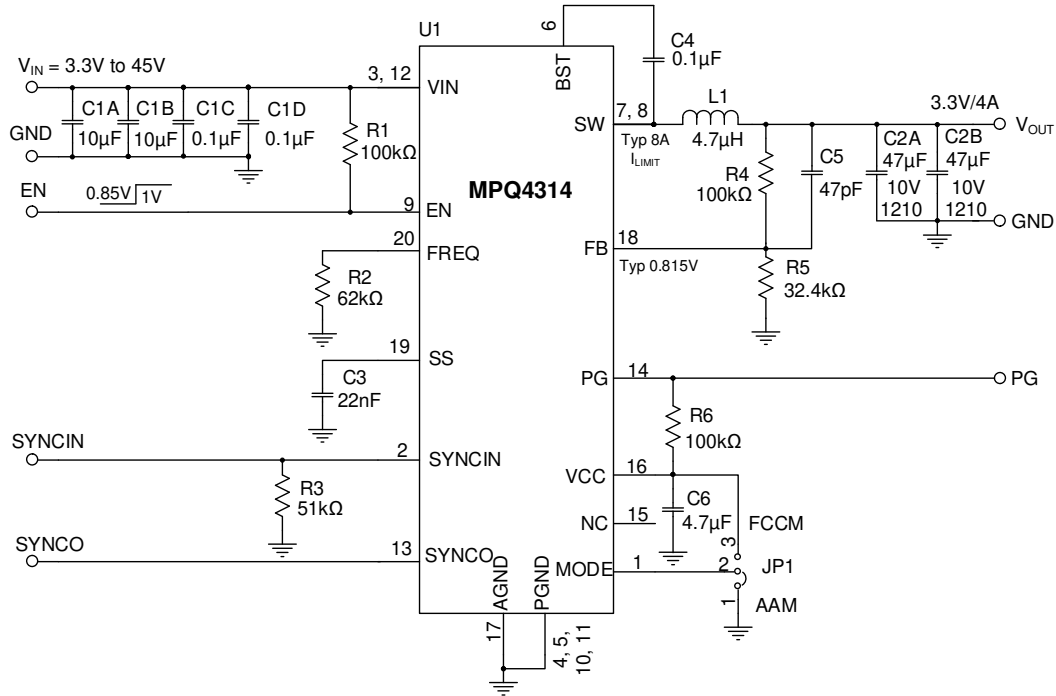

Figure 13: Typical Application Circuit ($V_{OUT} = 3.3V$, $f_{SW} = 470kHz$)
- 9) The recommended PCB layout is based on Figure 13 on page 35.